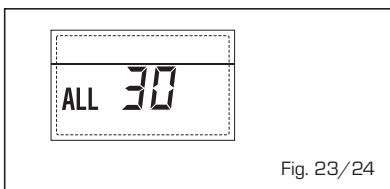

Fig. 23/24
- **ANOMALIA SONDA DESCARGA CASCATA "ALL 31" (fig. 23/25)**